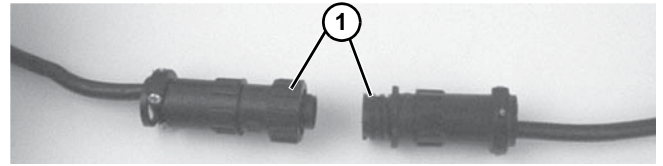

Figure 23
3. For DC variable speed motor, unplug motor cord at disconnect (Figure 23, item 1).